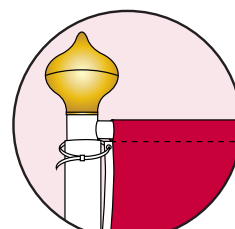

Fig 5a,
- 6, Secure plastic ties through the eyelets and around the pole. DO NOT OVER-TIGHTEN (see fig5a). At the bottom of the flag attach the D-ring to the metal clip on the weight. (see fig 5b)